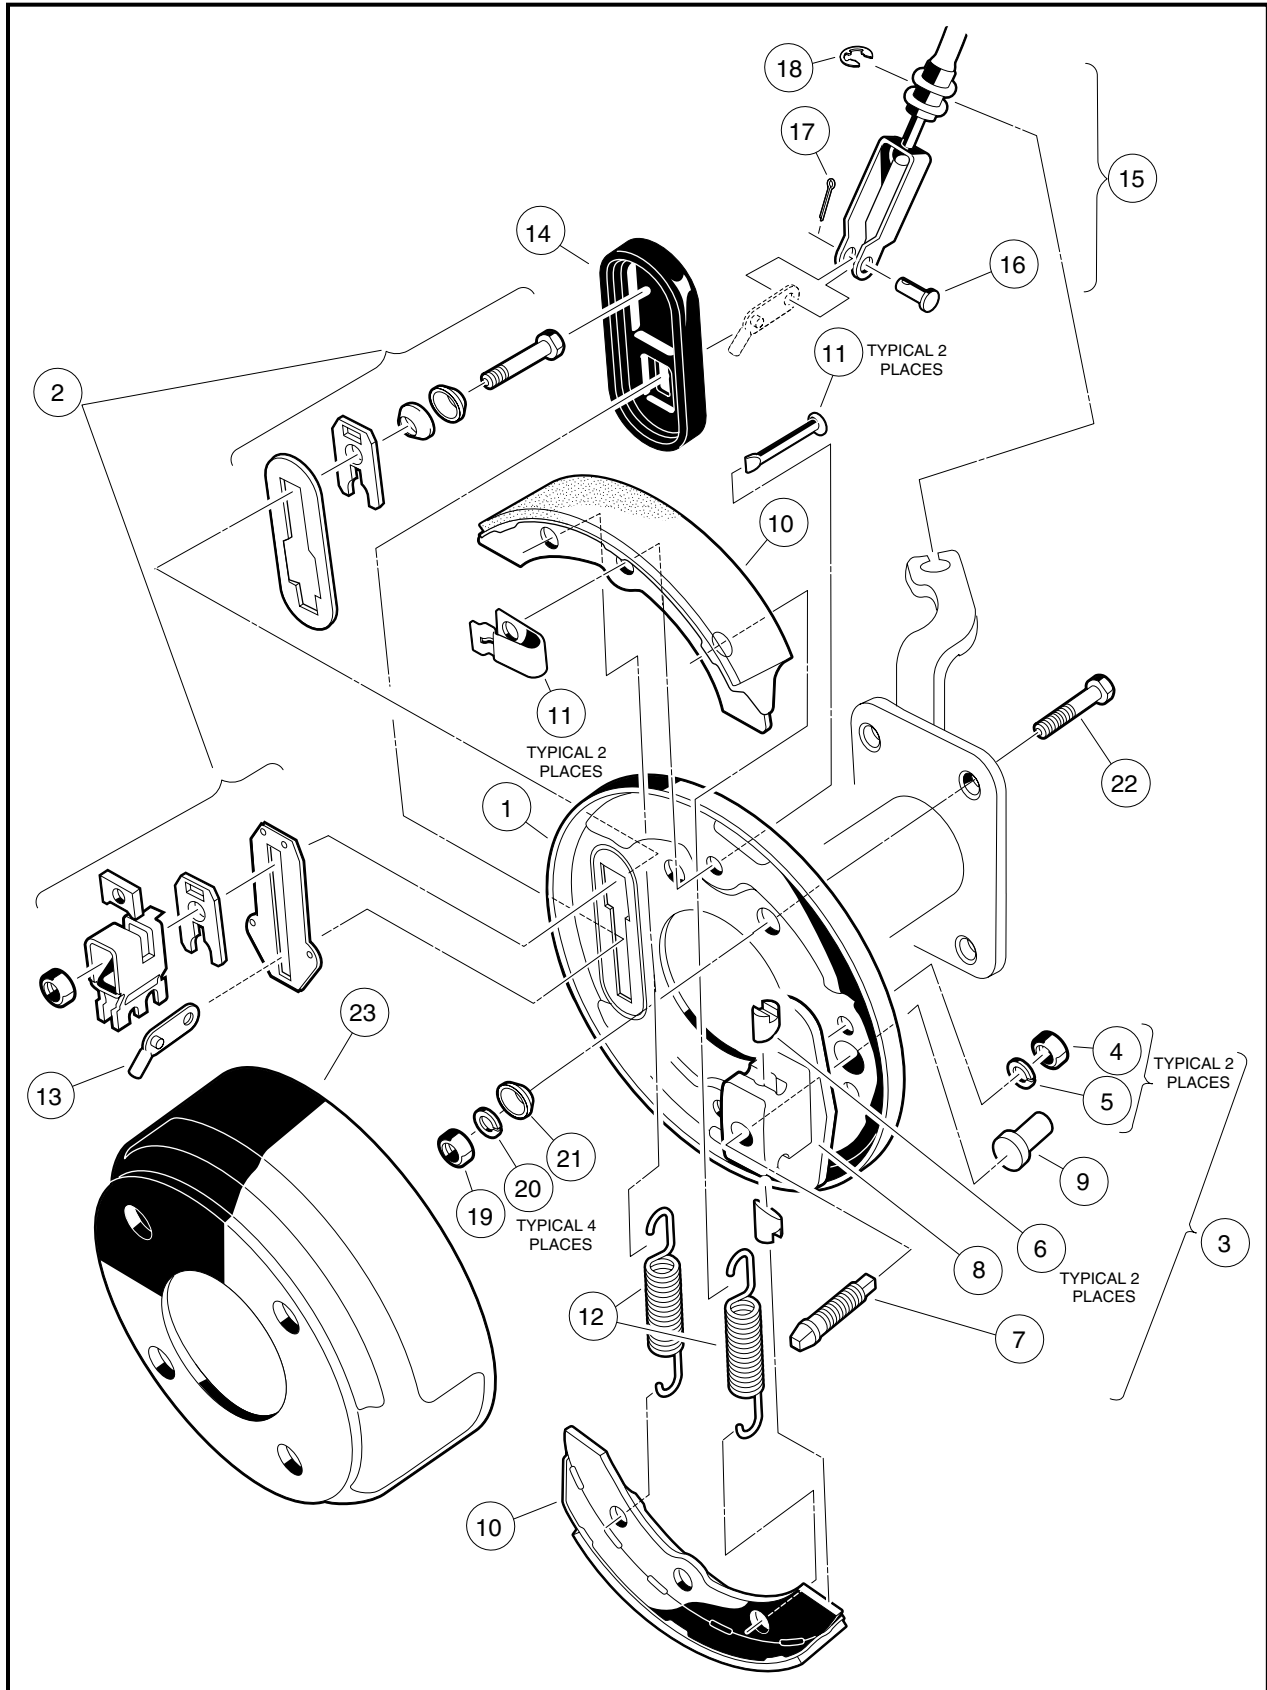

Figure 6-32 Front Manually-Adjusted Brake Assembly
NOTE: Components of the front wheel brake assembly are identical to the rear wheel manually-adjusted brake assembly. The front brake assembly is rotated 90° (when compared to the rear brake assembly) so the adjusting bolt on each assembly is oriented to the rear of the vehicle rather than at the top of the assembly (**Figure 6-32, Page 6-15**).
5. Remove cotter pin (17) and clevis pin (16) from brake cable (**Figure 6-32, Page 6-15**).
8. Remove hub and bearing assembly from spindle shaft. Remove four bolts (22), cone washers (21), lock washers (20) and hex nuts (19) that mount the brake assembly to the spindle (**Figure 6-32, Page 6-15**).
1. Install in reverse order of removal. Use bolts (22), cone washers (21), lock washers (20) and hex nuts (19) to mount brake assembly (**Figure 6-32, Page 6-15**).